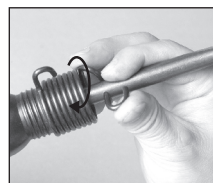

Figure 2
3. Screw the spring retainer together with the chisel onto the cylinder and firmly secure the spring retainer. (See Figure 2)